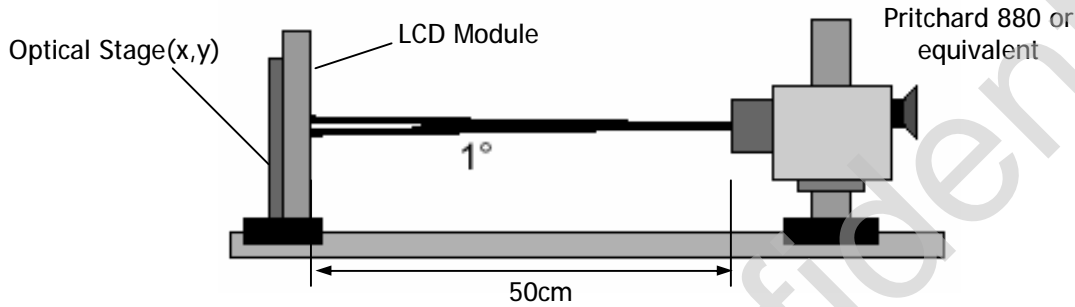
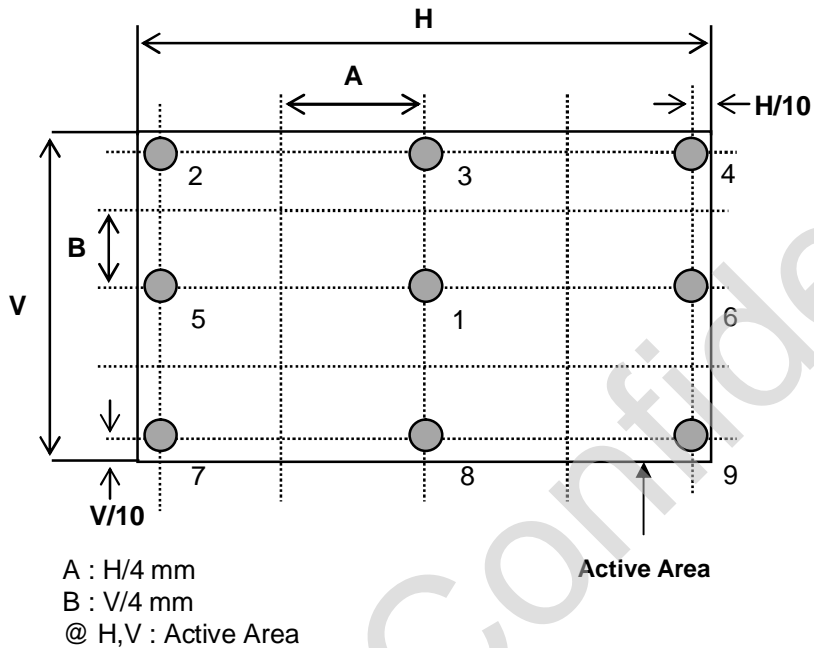

FIG. 6 Optical Characteristic Measurement Equipment and Method
FIG. 7 Measure Point for Luminance
9. Effective viewing angle is the angle at which the gamma shift of gray scale is lower than 0.3. For more information see FIG 6 and FIG 7.
The GAMMA we calculate from the log-log representation (FIG. 7)